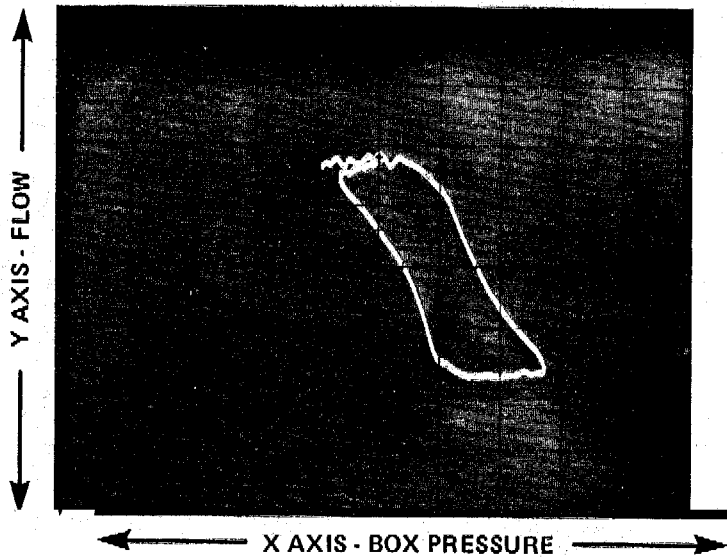

Figure 31 - Trace -  $R_{aw}$  Flow Curve
C.13. Obtain multiple overlapping traces as shown in Figure 31, using the oscilloscope ERASE switch as often as needed to clear unwanted stored traces.